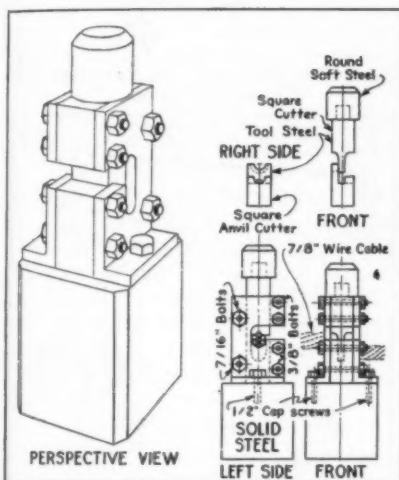

Fig. 3—Details of wire cable cutter
(12) A Wire Cable Cutter (See Fig. 3 and photo) has been developed in one of our districts for use in store-
Fig. 5—Now used in West Virginia and many other places is this method of salvaging grader blades developed in Minnesota. Match narrow ends with wide ends. (The figures 3" and 4" are for example only). Lap should not be less than one-half inch wide. Three-inch welds and 3" spaces, alternating front and back; that is, a space is always opposite a weld. Beginning with one weld in center, shift to opposite side and place two welds, shifting back again, placing two more welds and so on, working toward ends of blades until finished as shown